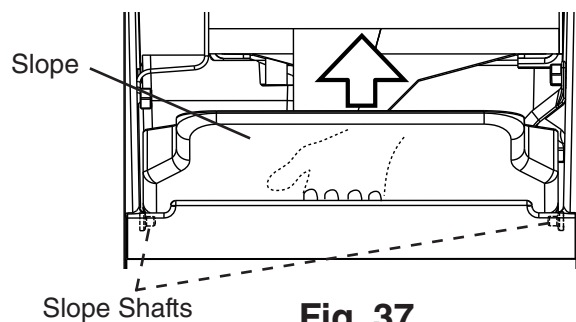

Fig. 37
- 2) Remove the slope from the ice storage bin by carefully bending it in the center and releasing it from the 2 slope shafts. See Fig. 37.